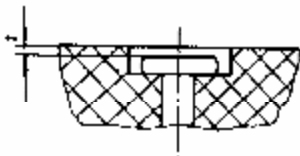

Figure 10-1-5 Measure rivet depth
(1) Clutch driven plate assembly
①Wear on friction plate. Measure 2 rivets’ depth on driven plate (from friction plate surface to rivet head, “t” in figure 10-1-5). If wear amount is equal or less than limit (table 10-1-1), operator should replace driven plate assembly or fix friction plate again with rivets. Remount rivet if it is loosening. Replace two friction plates at the same time.